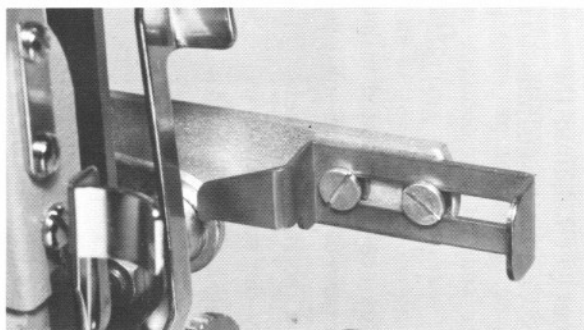

Figure 85
The actuating bar lock (29) located at the right end of the carriage is a "slide lock" that pulls to the right to release the actuating bar when justifying automatically (Figure 85). To lock the actuating bar, bank the carriage, space in a few increments and push the lock to the left.